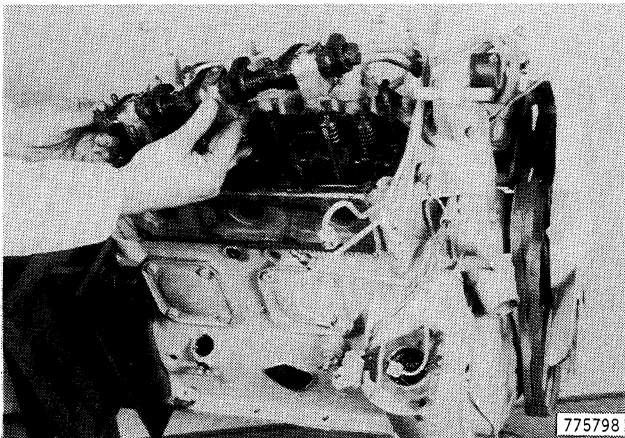

Figure 52
27. Remove the rocker arm assembly, Figure 52.